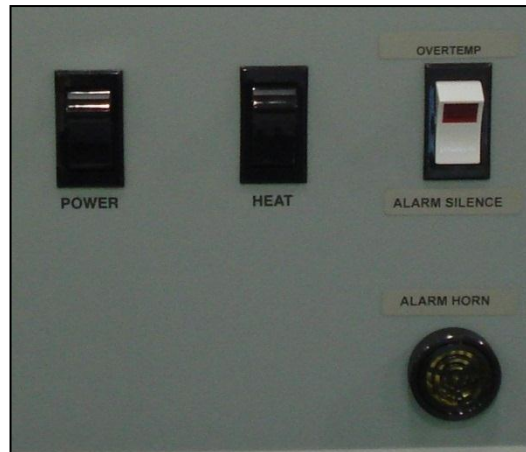

Figure 13. Power, Heat and Alarm Silence Switches.
- a. Momentarily toggle **POWER** (Figure 13) to start fans and check rotation.
3. Set **HEAT** to ON (Figure 13).